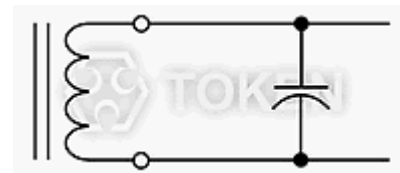

Figure 2. LC Circuit
For optimum performance, the RFID coil is used in a parallel LC circuit as shown in figure 2. Adding a capacitor to the circuit maximizes the read distance. The LC circuit is designed to resonate at the operating frequency of the reader. To calculate the value of the capacitor, use the following equation: **Capacitance (C) = 1 / (Inductance L × (2π × Frequency f))²**